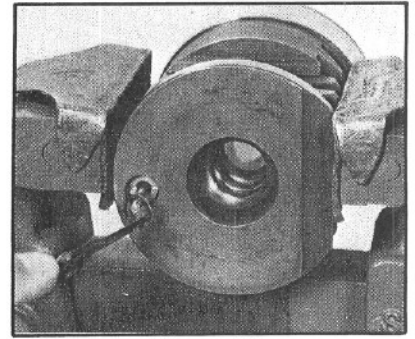
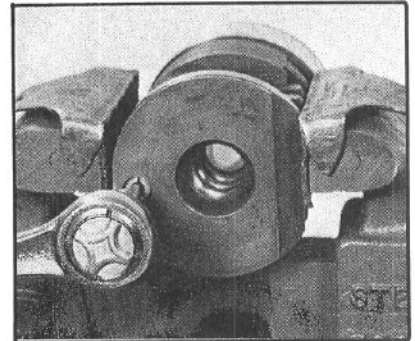
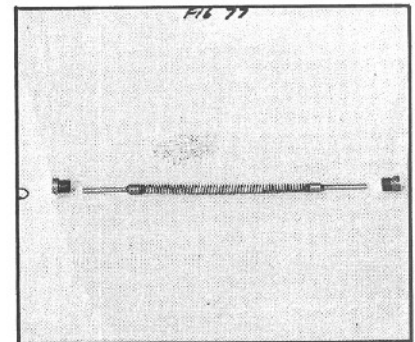

Figure 75
Figure 76
Figure 77
38. If your gear is equipped with poppets, they will usually not require servicing. If it is necessary, however, position the rack piston (31) in a soft-jawed vice. Then, remove two poppet retaining rings (32) (FIG. 75), two poppet seats (33) (FIG. 76), two poppets (34), the nylon spacer rod (35), and the poppet spring (36) (FIG. 77).